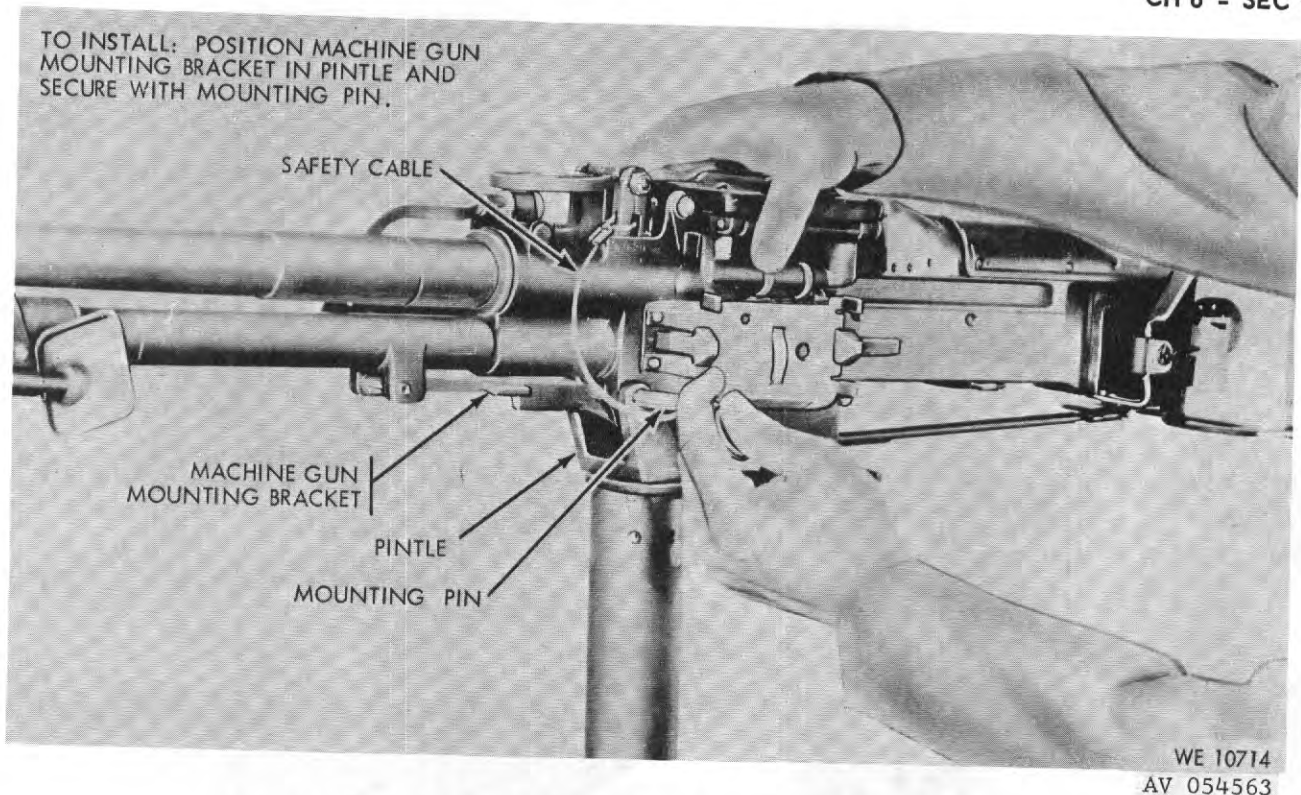

Figure 6-15. Machine gun M60D position on pintle - left side shown
(1) Check machine gun M60D to see that it has been thoroughly cleaned and lubricated, in working order, and secured on pintle with quick release pin (figure 6-15).
(2) Check machine gun M60D for freedom of movement in elevation, depression, and traverse.